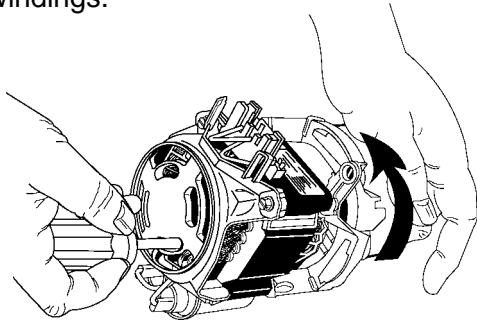

Fig. 3-28
1. Place the end of a flat-bladed screwdriver into the back of the wash motor to hold the armature of the motor from turning while unscrewing the impeller clockwise. (Fig. 3-28) Take care not to scratch or nick the motor windings.